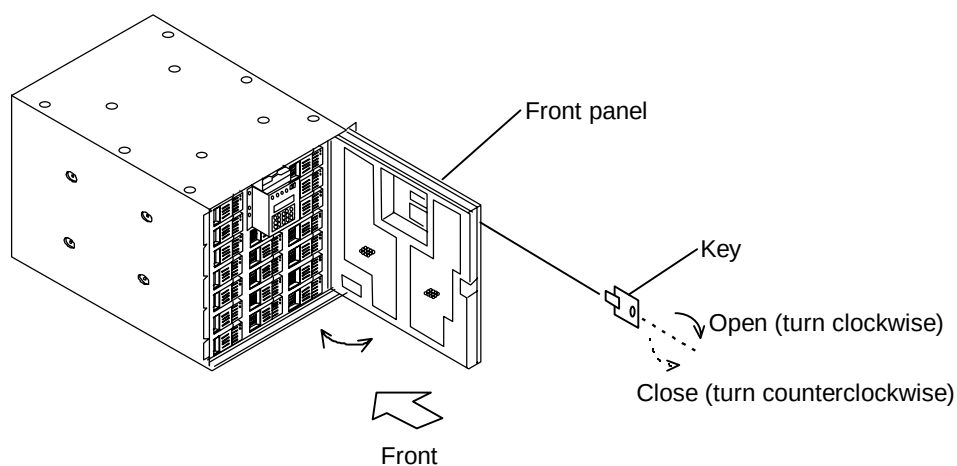

Figure 2.5.2 Opening/Closing the Front Panel
(1) Opening procedure (See Figure 2.5.2.)
- ① Remove the front bezel. (See RW-OPTION0120.)
- ② Insert the key into the key hole and turn it to the direction of an arrow (→), and hold the left side of front panel and open it to the right.
(2) Closing procedure (See Figure 2.5.2.)
- ① Close the front panel.
- ② Turn the key to arrow(←) direction and fix front panel.
- ③ Install front bezel.